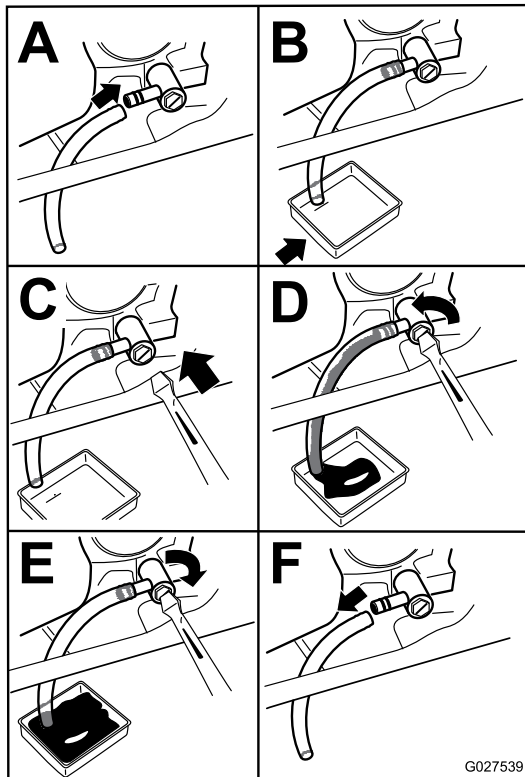

Figure 40
3. Stop the engine, remove the key, and wait for all moving parts to stop before leaving the operating position (Figure 40).